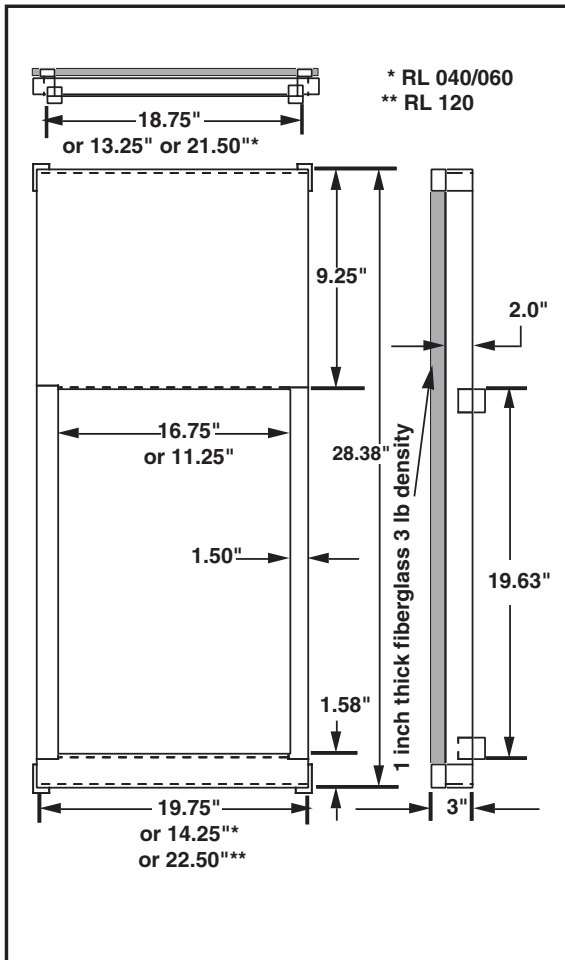

Figure 9. Downflow Sub-Base Dimensions
3. When the furnace is installed on a factory or site-built cased air conditioning coil, the sub-base is not necessary. However, the plenum attached to the coil casing must be installed such that its surfaces are at least 1" from combustible material in Figure 9.